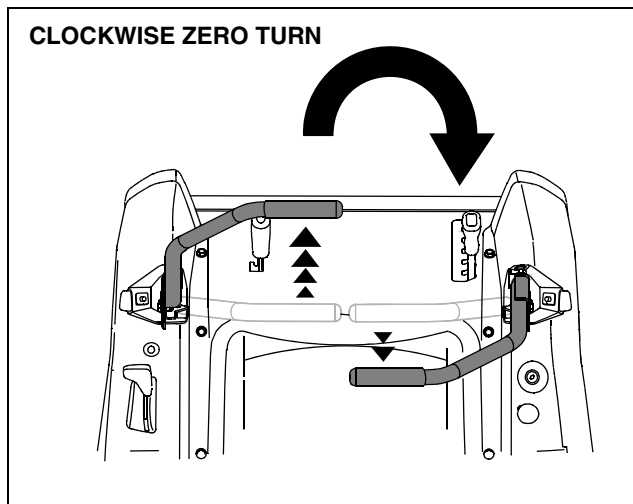

Figure 18
- To turn clockwise, move the left control lever forward while simultaneously moving the right control lever rearward. See Figure 18.